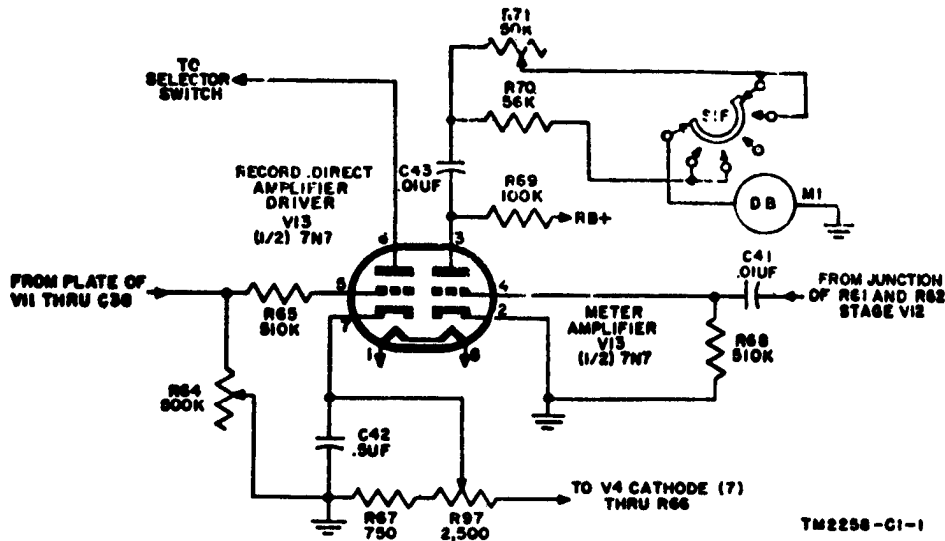
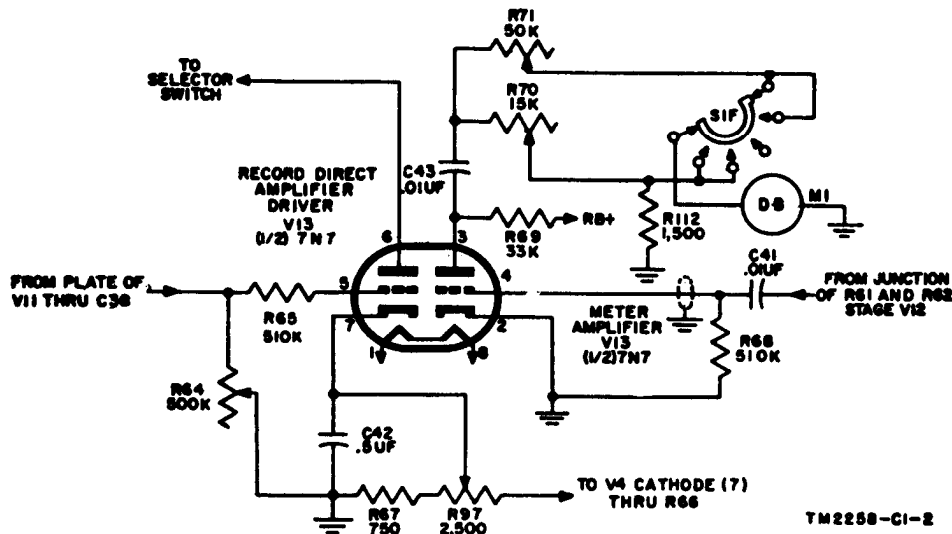

Figure 56.1. (Added) Record direct amplifier driver and meter amplifier, Facsimile Transceivers TT-1F/TXC-1 bearing Order No. 6487-Phila-51.
Figure 56.2. (Added) Record direct amplifier driver and meter amplifier, Facsimile Transceivers TT-1F/TXC-1 bearing Order No. 81388-Phila-56.
b. If the resistance values of these resistors are found to be correct (within 10 percent), first adjust or select resistor R71 to get the required meter reading with the selector switch set on the TRANSMIT position ((1) below). Then adjust or select resistor R70 to get the required meter reading with the selector switch set on the RECORD PHOTO position ((2) below). In Facsimile Transceivers TT-1/TXC-1 through TT-1E/TXC-1, both resistors R70 and R71 are fixed resistors (fig. 56). In Facsimile Transceivers TT-1F/TXC-1 bearing Order No. 6437-Phila-51, resistor R70 is a fixed resistor and resistor R71 is a variable resistor (fig. 56.1). In Facsimile Transceivers TT-1F/TXC-1 bearing Order No. 21326-Phila-56, both resistors R70 and R71 are adjustable resistors (fig. 56.2).